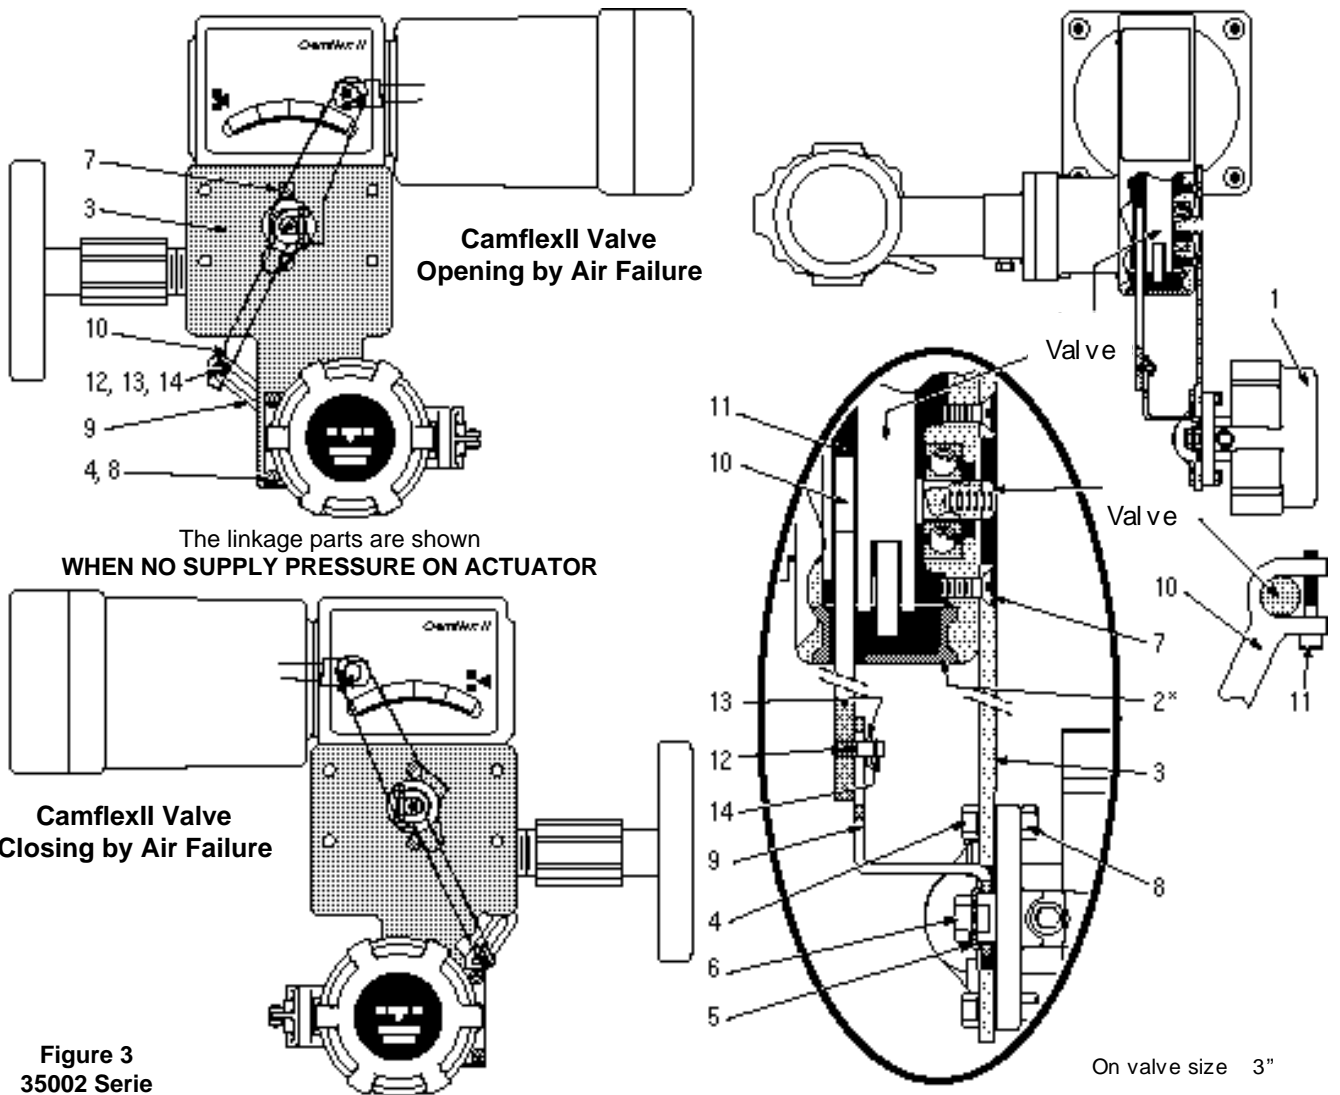

Figure 3
Each microswitch has three terminals ("common", "normally open" and "normally closed"), (See Figure 3). Electrical rating of switches is stamped on serial plate.
The coupling of the switch shaft to the valve is made by means of a back lever and a motion linkage proper to each valve configuration. The back lever is fastened to the switch shaft (11) with a washer and a hex. head screw. Figures 3 to 6 show installation details on the various valves.
## On 35002 Series Camflex II Valves (Figure 3):